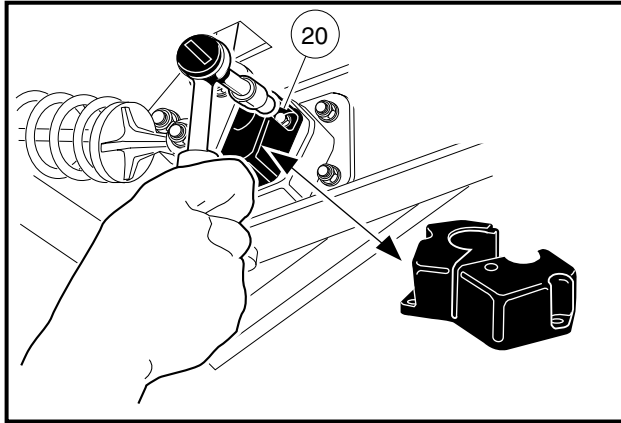
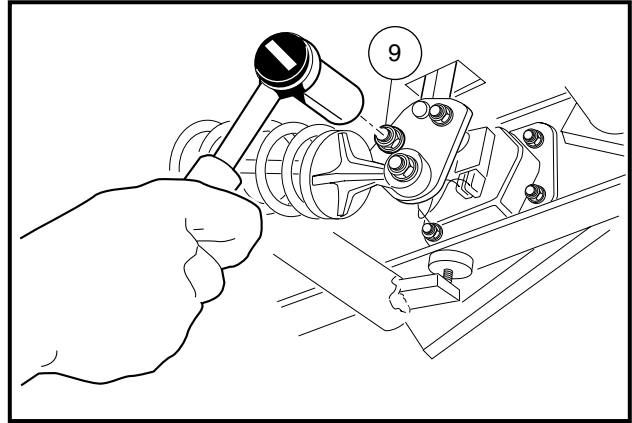

Figure 5-25 Potentiometer Cover Removal
Figure 5-26 Loosen Bolt
- 5.6. Remove two screws (20) and detach the potentiometer housing cover (**Figure 5-25, Page 5-26**). Slightly loosen the bolt (9) (**Figure 5-26, Page 5-26**) attaching the actuator lever to the adjustment bracket.
- 5.8. Tighten the actuator lever bolt (9) (**Figure 5-26, Page 5-26**) to 75 in-lb (8.5 N·m). This step sequence ensures the solenoid will not engage with the accelerator pedal in the fully upright position and with the park brake set. If the red LED is illuminated at this point, repeat step 5.7.